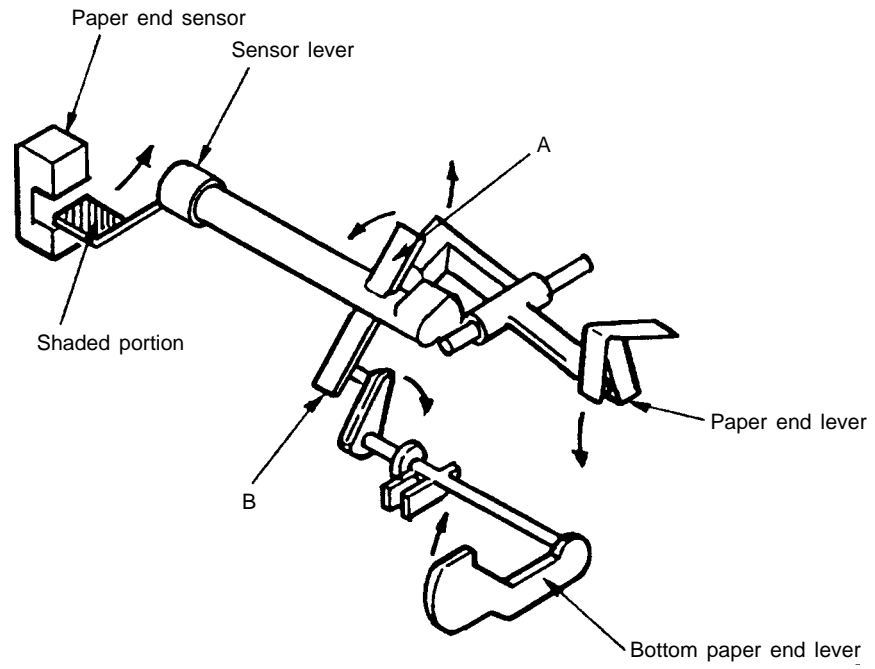

Figure 2-15
2.2.6 Paper detection mechanism (See Figure 2-15.)